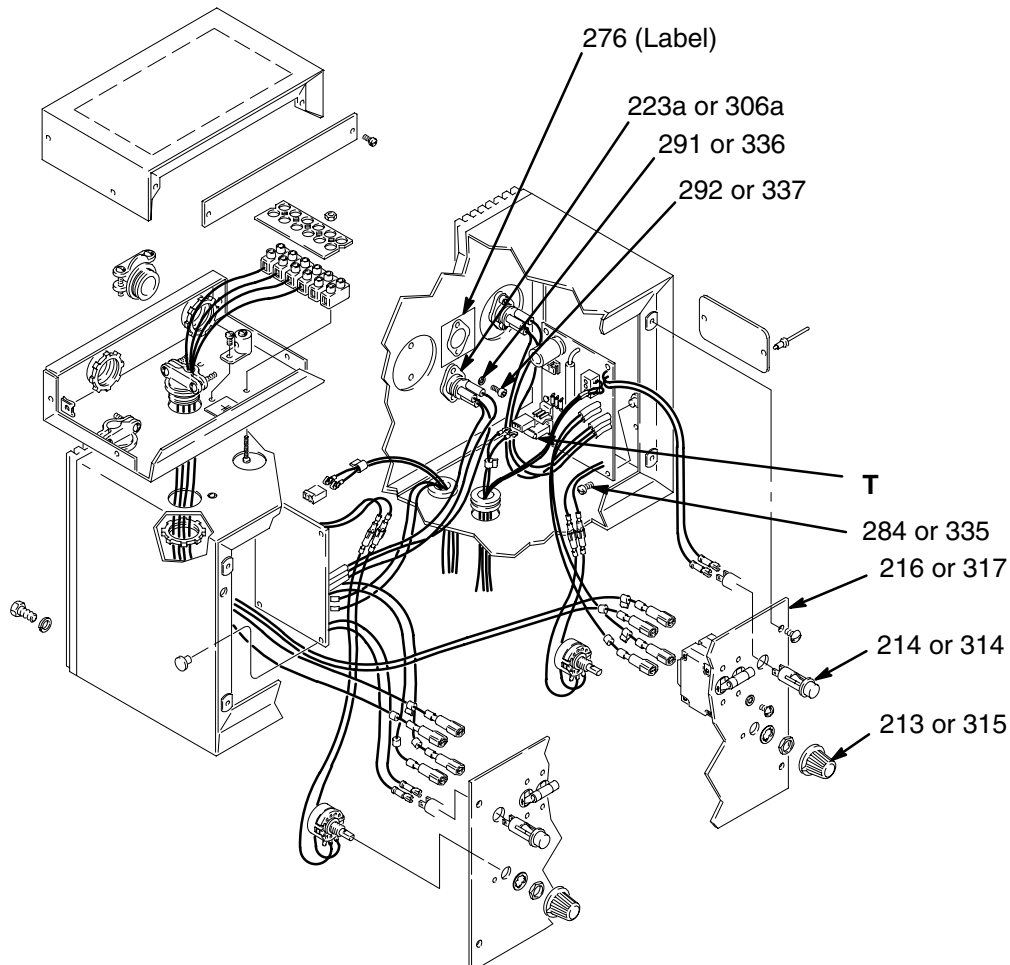

Fig. 20
3. Connect the control panel cover (216) to the control box with one screw to keep it out of the way. See Fig. 20, page 30.
4. Remove the front heater cover (238). See page 39. Disconnect the heating element wire from the thermostats.
4. Unplug the wires of the indicator light (214 or 314) from behind the control panel (216 or 317). Unplug the wires from the triac (223a or 306a), noting the position of the wires. See Fig. 20 and 21.
7. Remove and keep the screws (284 and 335) from each corner of the circuit board. Remove the board. See Fig. 20.
1. Apply conductive paste (Graco P/N 110009) to the bottom flange of the triac (223a or 306a). Position the triac as shown in Fig. 20. Use the screws (291 or 336) and lockwashers (292 or 337) to mount the triac to the back of the control.
3. Plug in the triac wires, if not plugged in. See Fig. 13, page 25. Verify the triac wiring with the label (276) located inside the control box. See Fig. 20, page 30.
4. If used, plug the ATC connector (T) into the circuit board position J1. Otherwise, make sure the 2 pin connector is installed at J1 with the 47.5K resistor. See Fig. 20 and 21.
6. Plug the indicator light leads (214 or 314) into the rear of the indicator light. See Fig. 20 and 21.
7. Plug in the wires leading to the TEMP SET dial (213 or 315). See Fig. 20 and 21.
8. Plug the sensor probe connector P2 into the circuit board at position J2. See Fig. 20 and 21.